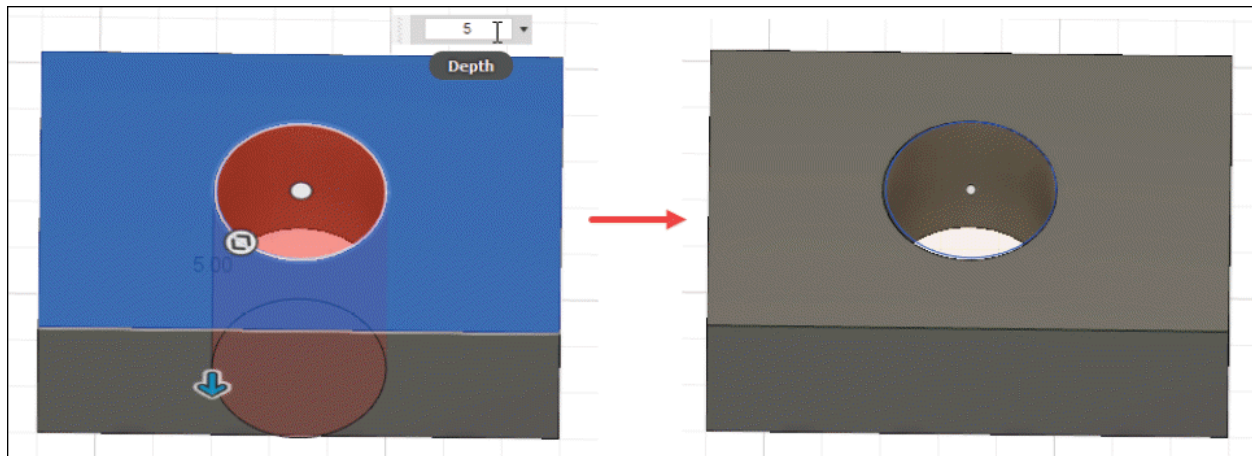

Figure-49. Preview of hole
- After specifying the parameters, click **OK** button of **HOLE** dialog box to complete the process; refer to Figure-49.